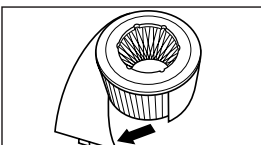

Fig. 2
- Step 5:** Locate the seam of the pre-filter and carefully separate the fastener to remove the pre-filter from the HEPA filter (Fig. 2).